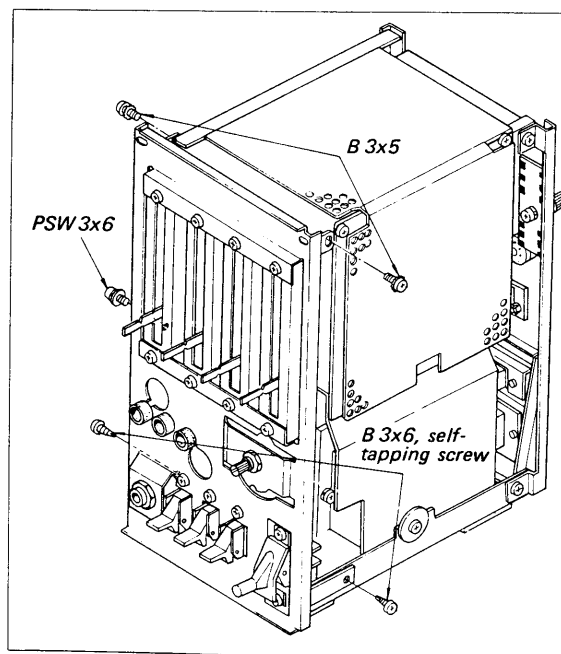

Fig. 2-4. Front subchassis removal
2. Remove the five screws shown in Fig. 2-4.